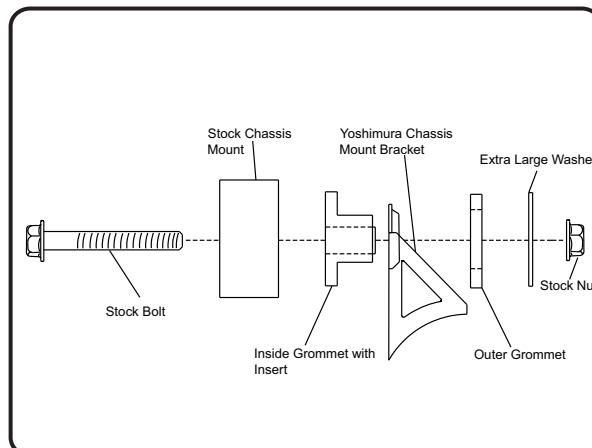

Fig. 2
- 4 Bolt tailpipe to chassis mount using both stock and supplied hardware (see Fig. 2 and parts diagram on page 3).